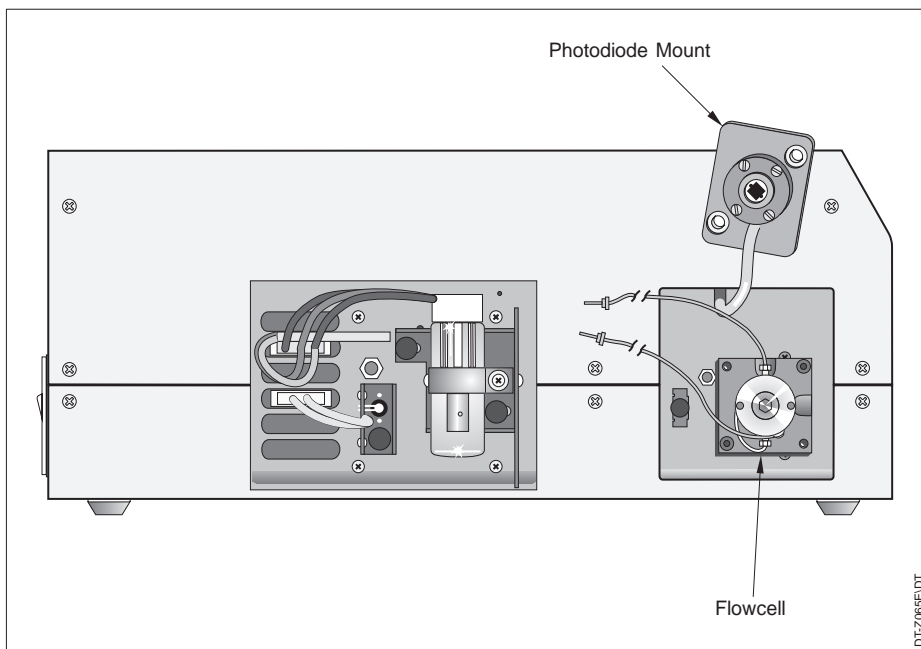

Figure 5 ProStar 345, Inside the Side Enclosure
1. Although the flowcell assembly is located behind the forward enclosure (Figure 5) you need not remove the enclosure to connect your inlet and outlet lines.
2. Using finger-tight nut and ferrule sets connect the column outlet directly to the detector fluid inlet on the left side of the flowcell, Figure 5. If additional tubing is required to reach the inlet, use a zero dead-volume union.